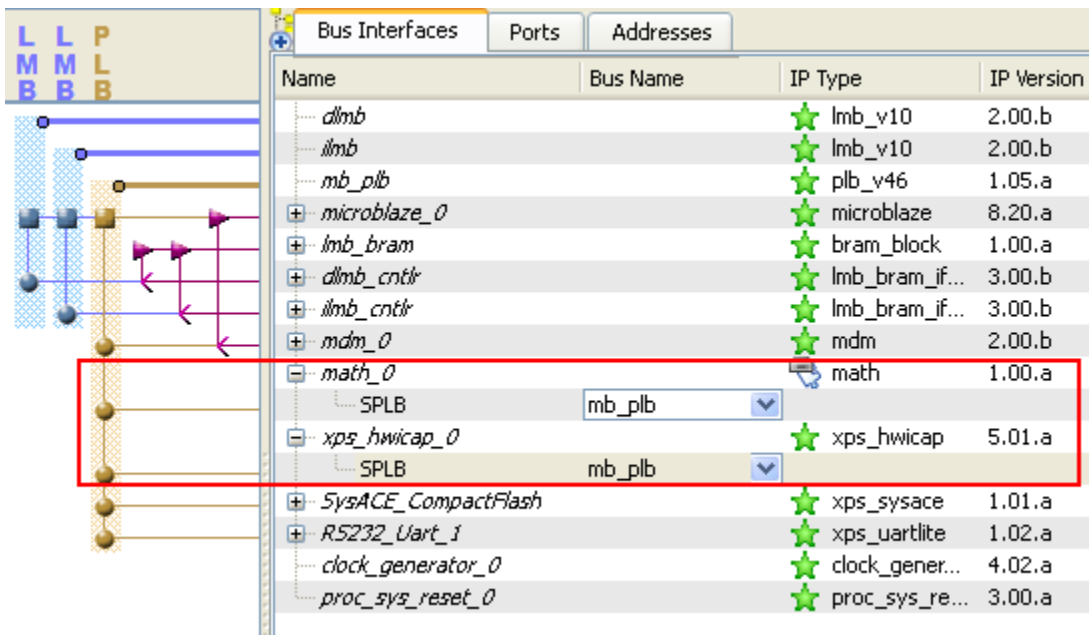

Figure 4: Displaying the Bus Connections in System Assembly View
- Connect the various buses shown in Figure 4.